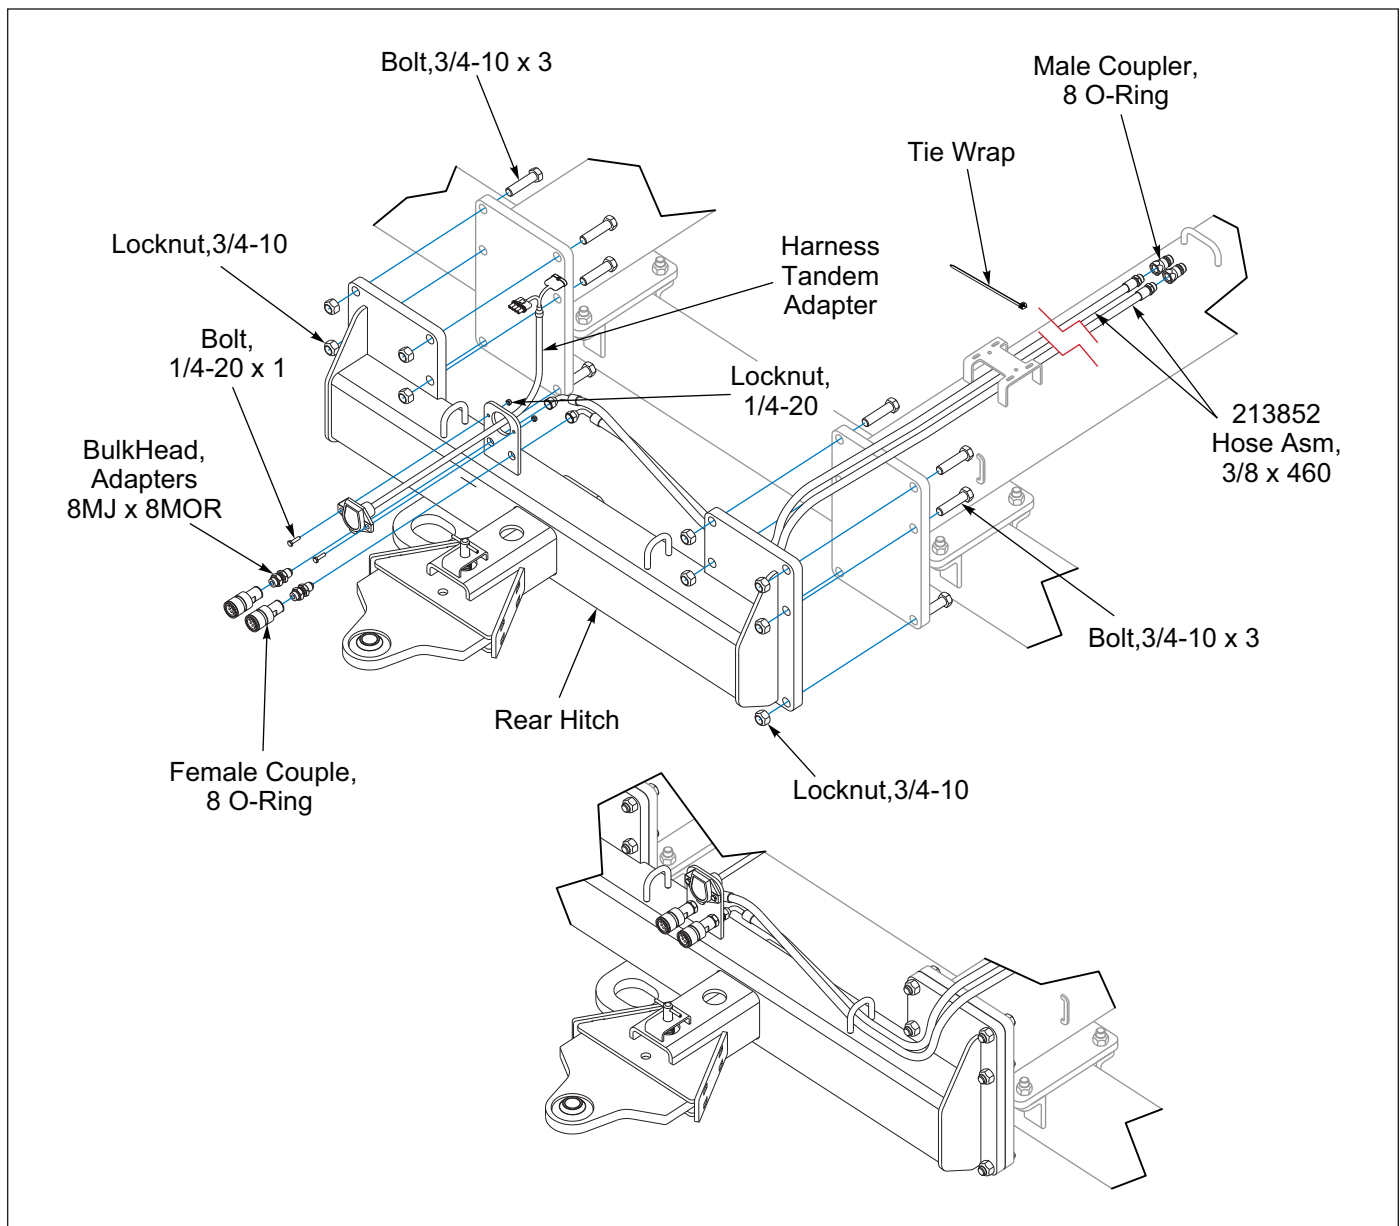

Figure 2-83: Rear Hitch Installation - Optional
1. Position the Rear Hitch to the rear frame hitch plates, insert twelve 3/4-10 x 3 Bolts secure with Locknuts. **See Figure 2-83.**